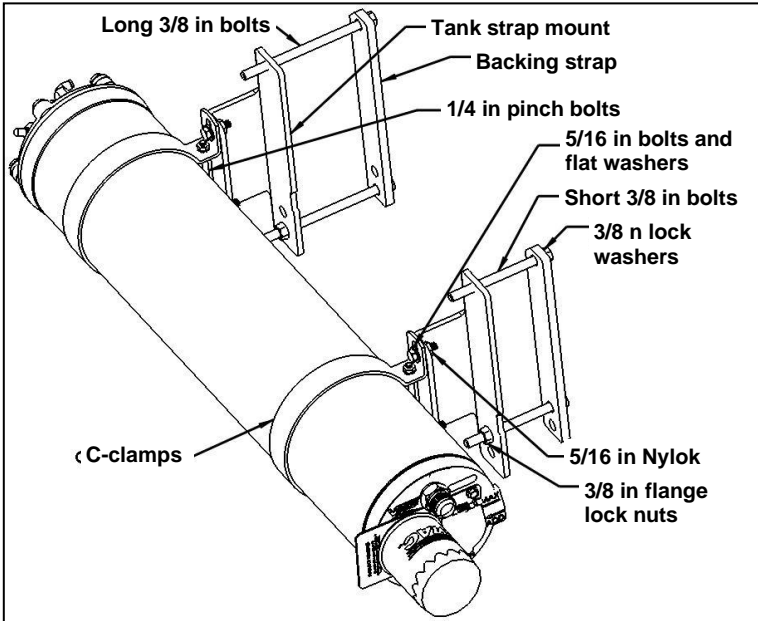

Figure 19 - Installing the AOST
The tank will mount on the passenger side of the vehicle between the two cab mounts, with the oil filter facing forward (Figure 19).
- Apply Loctite 242 and insert 3/8 in bolts through the tank flat bar backing straps and route the bolts over the top of the frame so that the flat bar is on the inside of the frame rail (Figure 19).